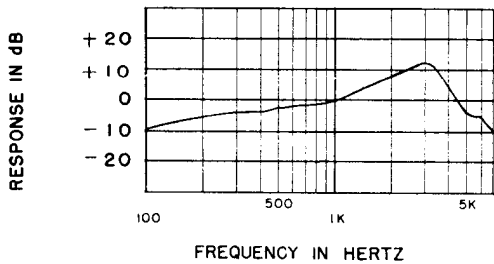

Fig. 4
- FREQUENCY RESPONSE: T-UG8 essentially flat 200 HZ-20KHz. T-UG8-D104 tailored; See Fig. 4.